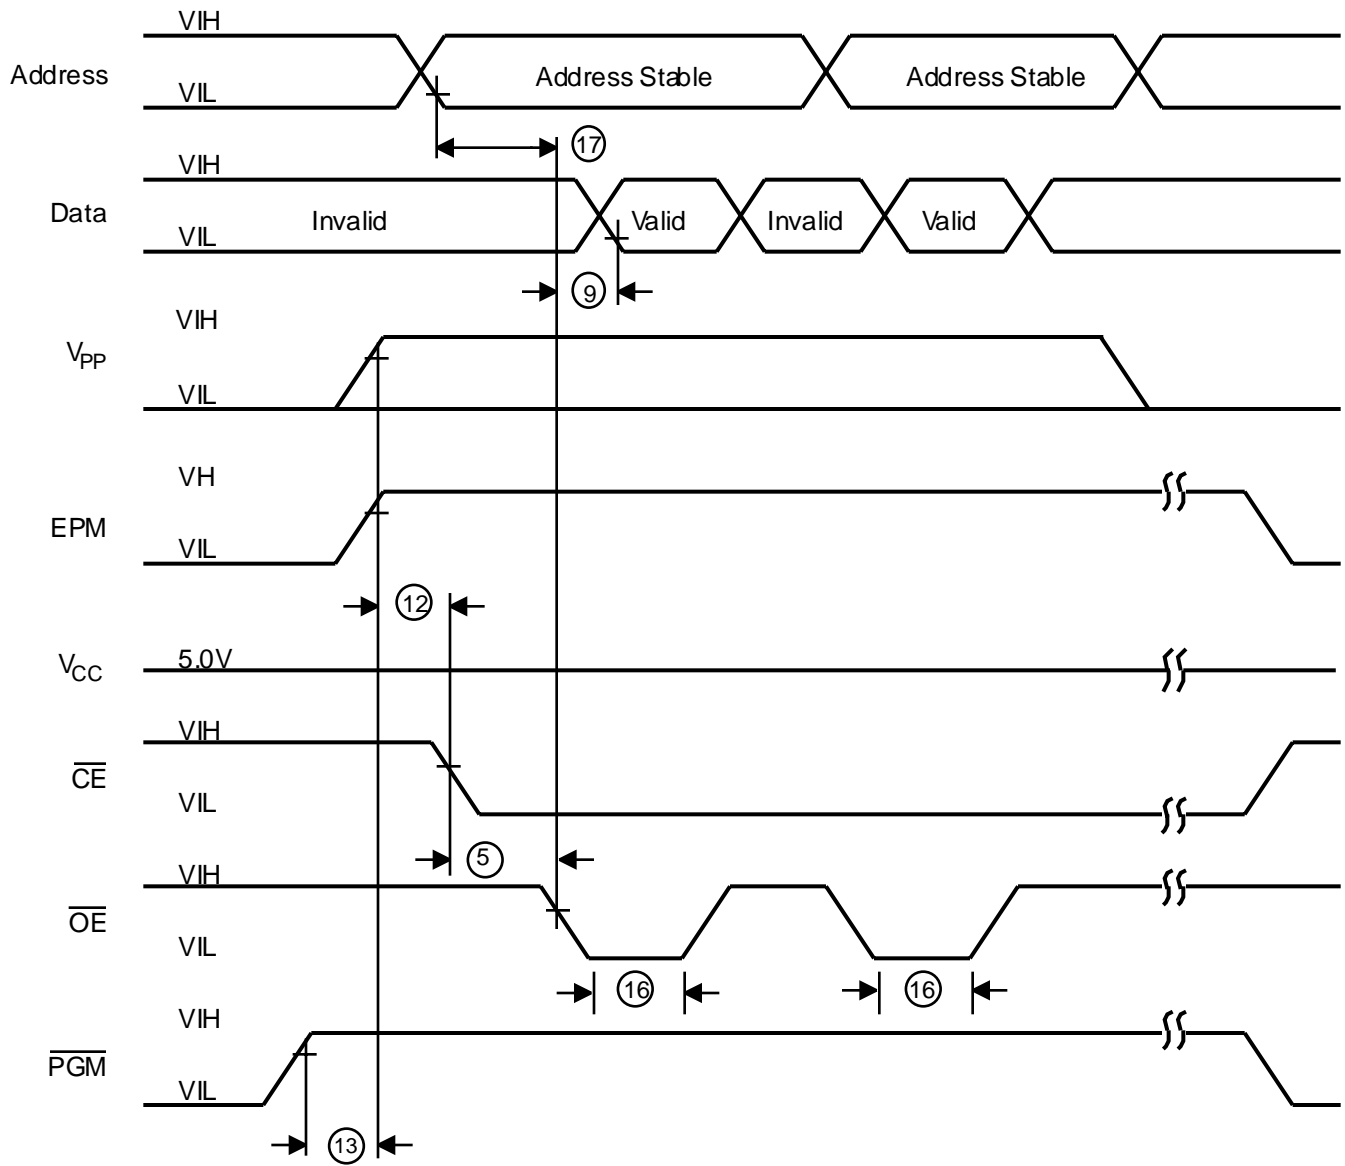

Figure 19. Z86E04/E08 Programming Waveform (EPROM Read)
**Programming Waveform.** Figures 19, 20, 21 and 22 show the programming waveforms of each mode. Table 8 shows the timing of programming waveforms.